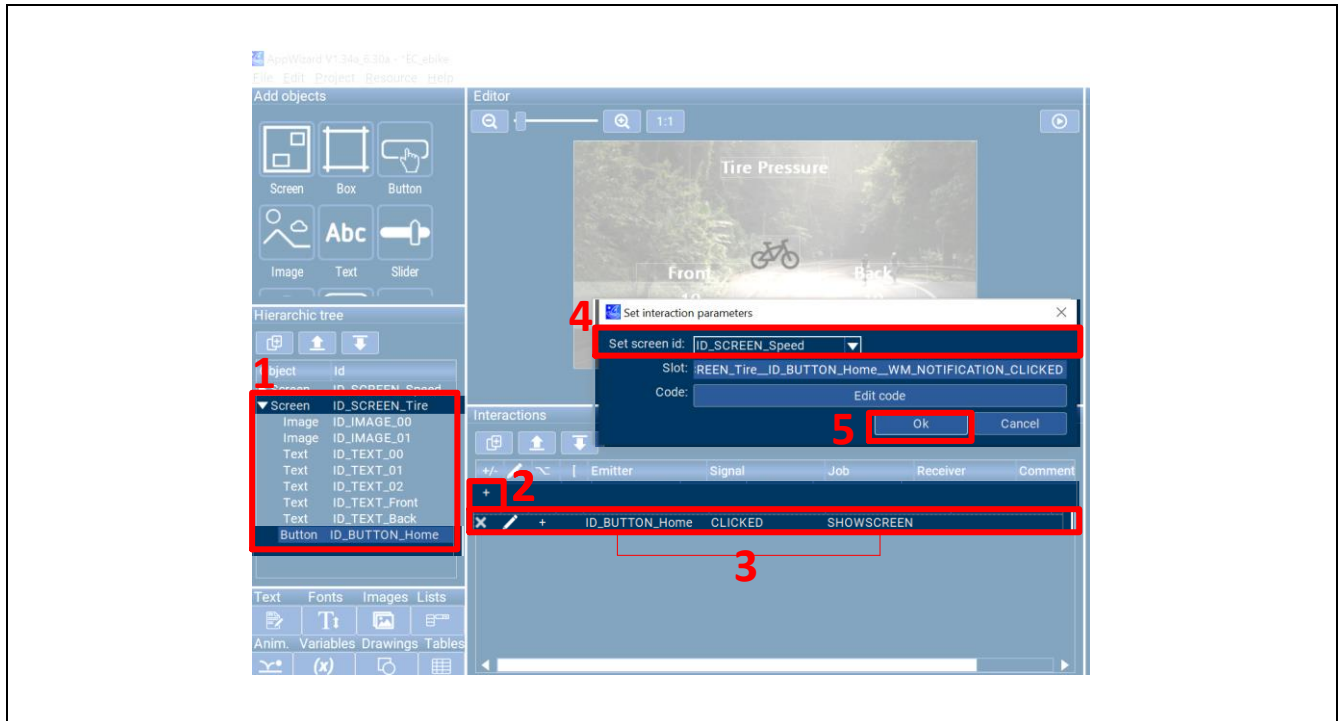
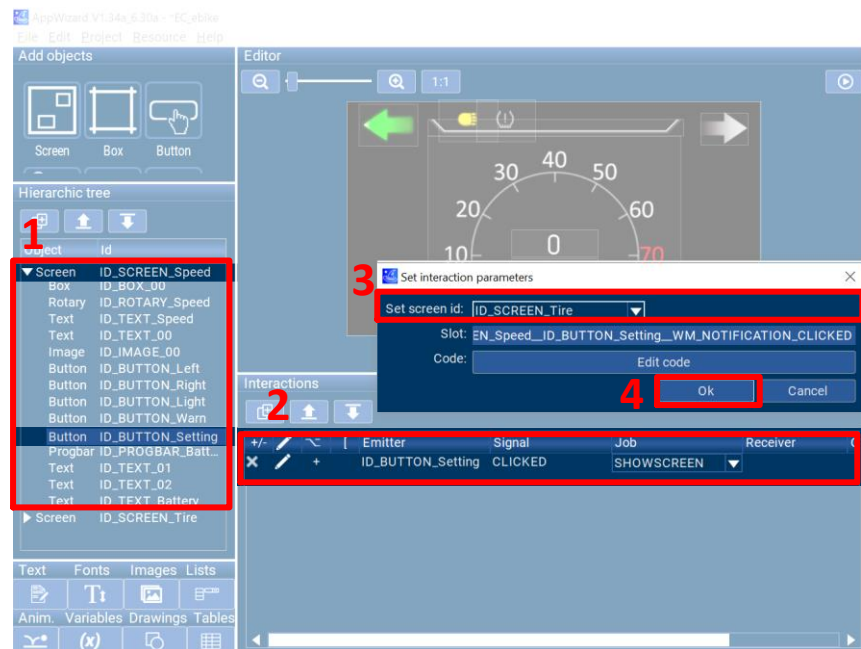

Figure 1-52 Interaction – Screen Switching
Figure 1-53 Interaction – Screen Switching
- 1) Use buttons for page navigation and switching. Click on ID_BUTTON_Home under ID_SCREEN_Tire and set the Interactions section as shown in Figure 1-52. This completes the setup for switching from the Tire page to the Speed page. Similarly, set up the button on the Speed page to switch back to the Tire page, as shown in Figure 1-53.